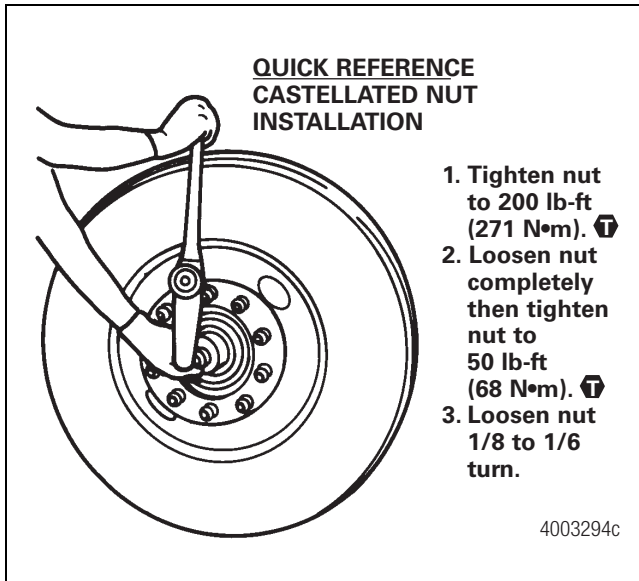

Figure 10.13
1. Install the washer and castellated nut. Tighten the nut to 200 lb-ft (271 N•m) while rotating the wheel end in both directions. Figure 10.13.